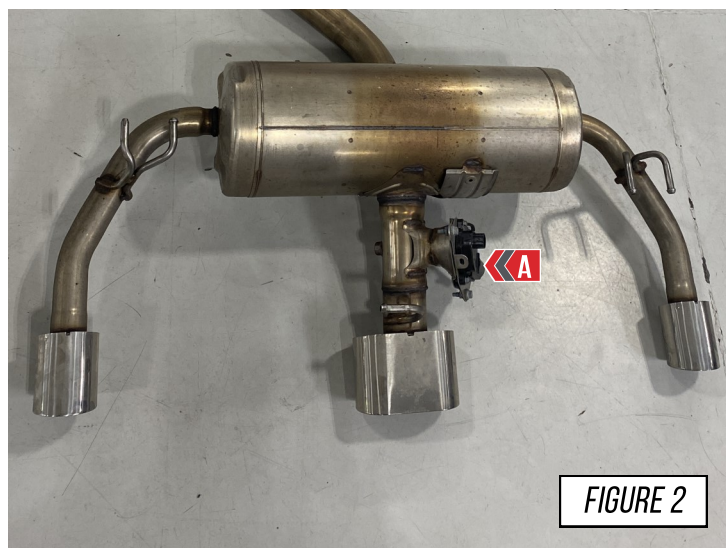

FIGURE 2
Remove the OE valve motor and bracket from the rear of the OE exhaust, as shown at (A) in **Figure 2**. Do this by **ONLY** removing the three larger bolts on the perimeter of the valve assembly.